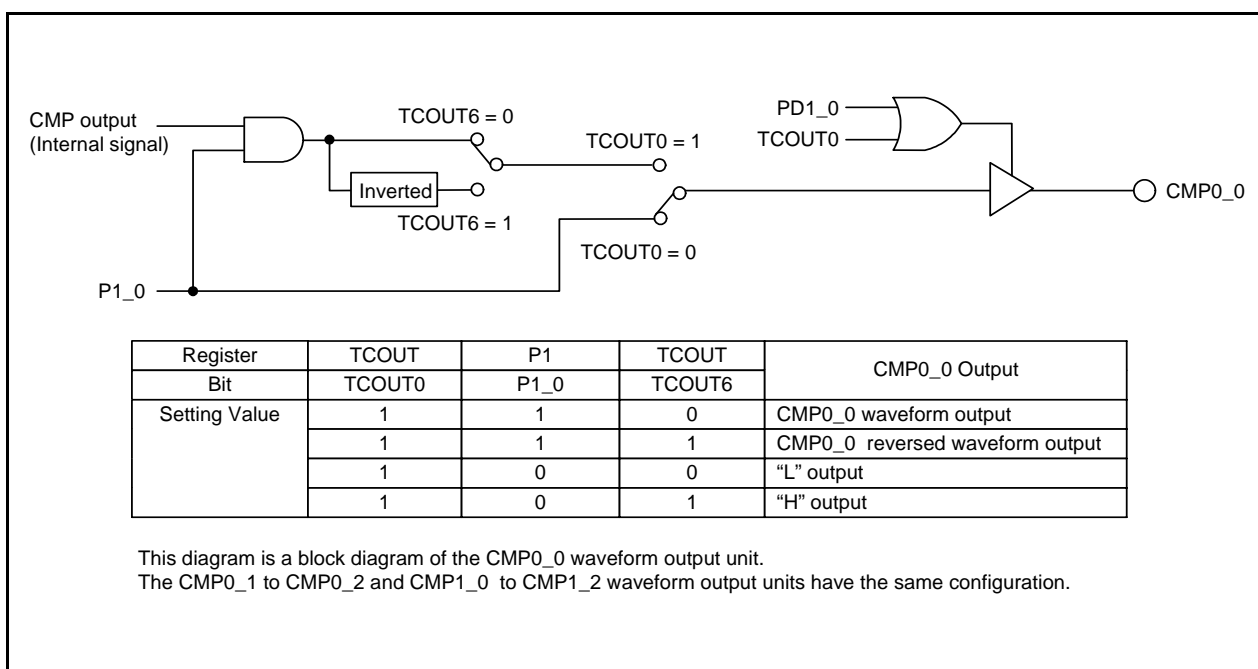

Figure 14.25 Block Diagram of CMP Waveform Output Unit
1. When the corresponding port data is 1, the waveform is output depending on the setting of the registers TCC1 and TCOUT. When the corresponding port data is 0, the fixed level is output (refer to **Figure 14.25 Block Diagram of CMP Waveform Output Unit**).